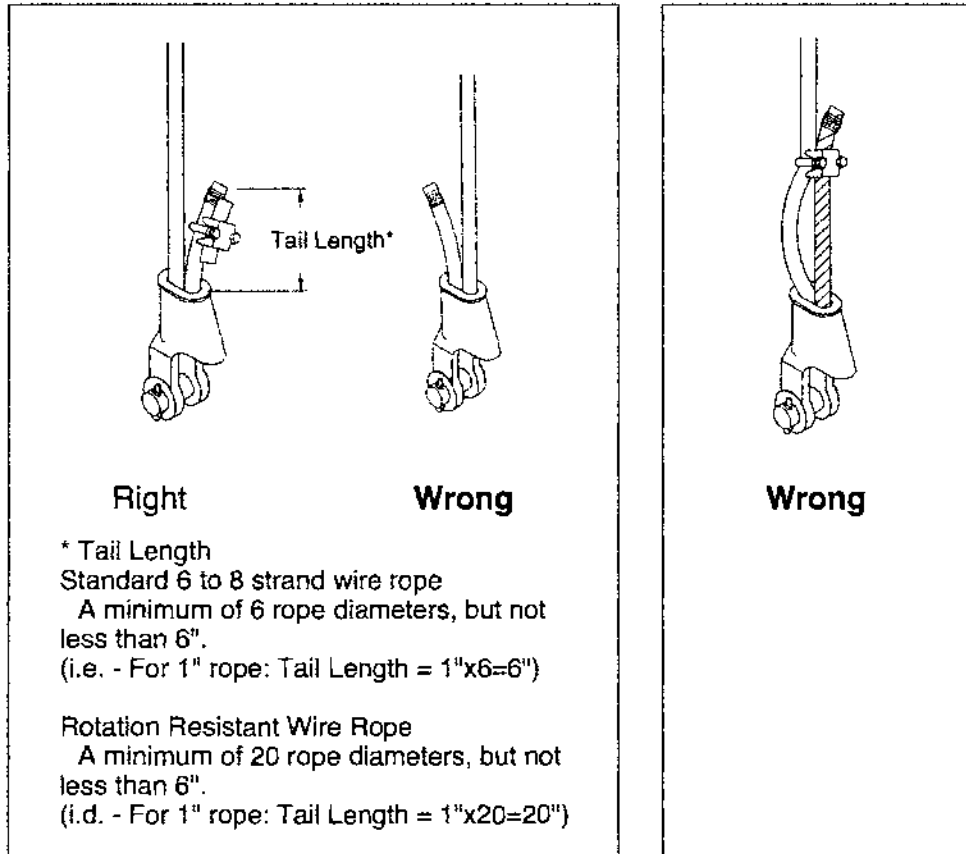

Figure 31. The wedge socket is a very popular end attachment; it is easily installed and quickly dismantled. But it must be applied correctly.
- Align live end of rope with center line of pin. (See Figure 31)
- Secure dead end section of rope. (See Figure 31)
- **Do not attach dead end to live end.** (See Figure 31)
- **To use with Rotation Resistant wire rope**, ensure that the dead end is seized, welded or brazed (or consult rope manufacturer) before inserting the wire rope into the wedge socket to prevent core slippage or loss of rope lay. The tail length of the dead end should be a minimum of 20 rope diameters but not less than 6" (See Figure 31).